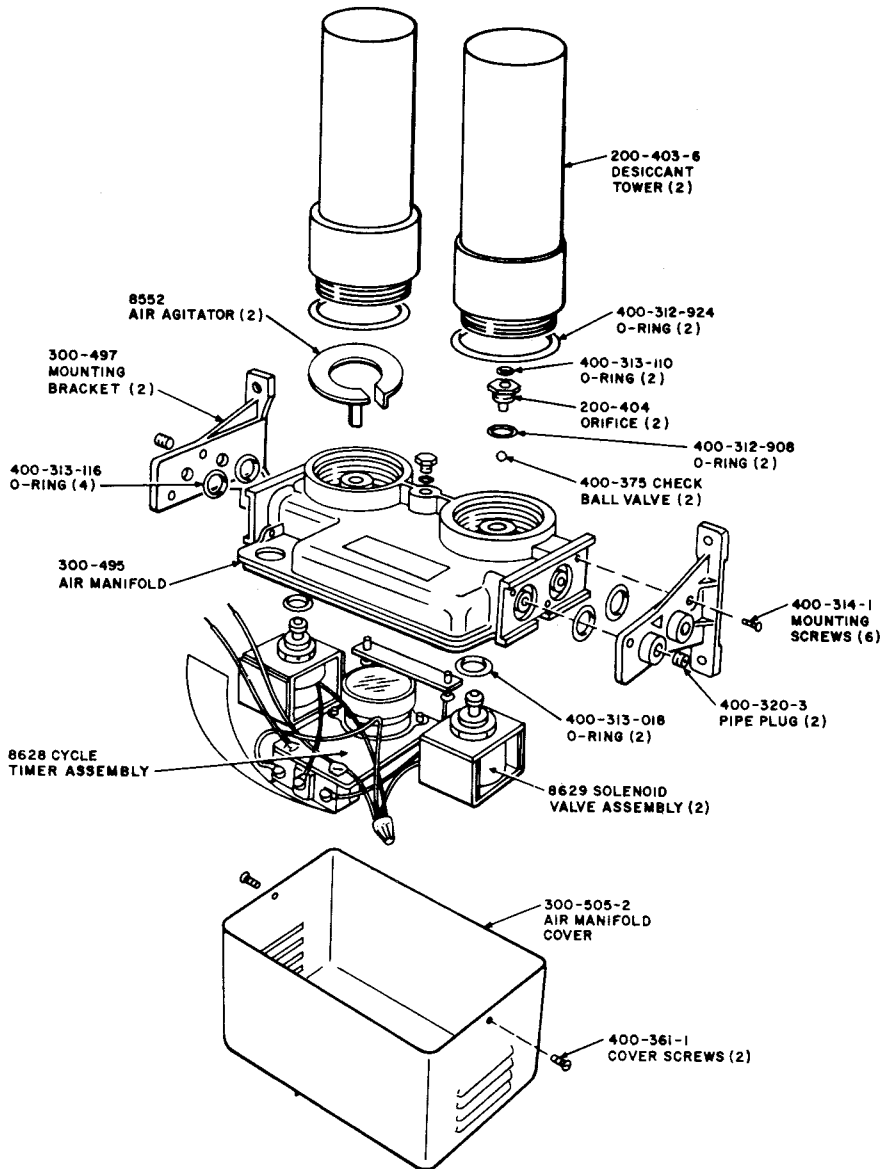

Fig. 5—B-380 Heatless Dryer (Exploded View)
2.08 The B-380 heatless dryer (Fig. 5) requires no lubrication or field adjustments. However, it is recommended that at periodic intervals the unit be inspected.